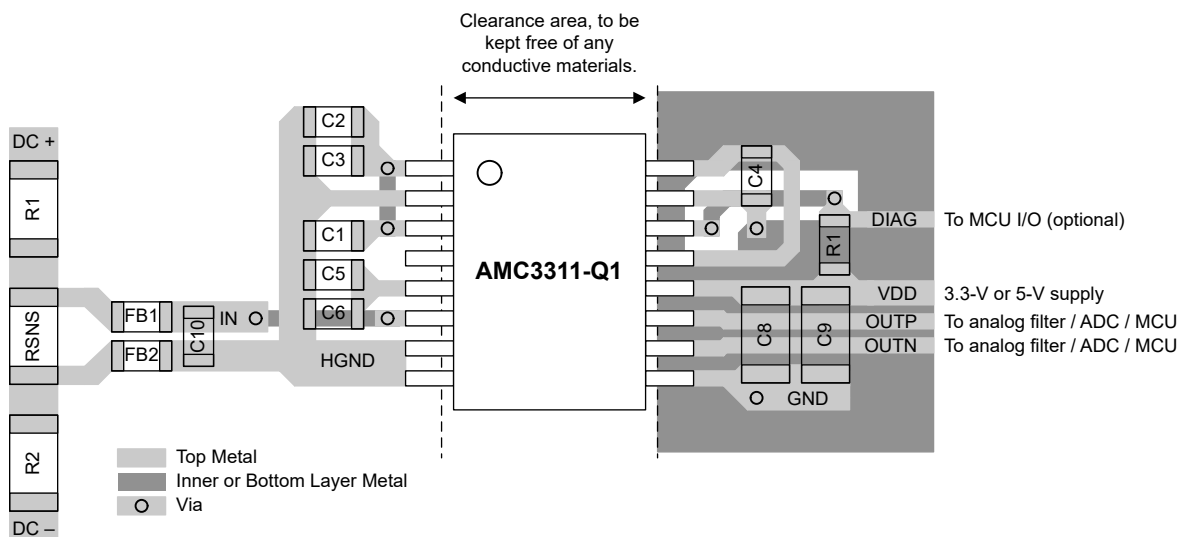

Figure 8-6. Recommended Layout of the AMC3311-Q1
Figure 8-6 shows a layout recommendation with the critical placement of the decoupling capacitors (as close as possible to the AMC3311-Q1 supply pins) and placement of the other components required by the device. For best performance, place the sense resistor close to the device input pin (IN). This layout is used on the AMC3311-Q1 EVM and supports CISPR-25 compliant electromagnetic radiation levels.